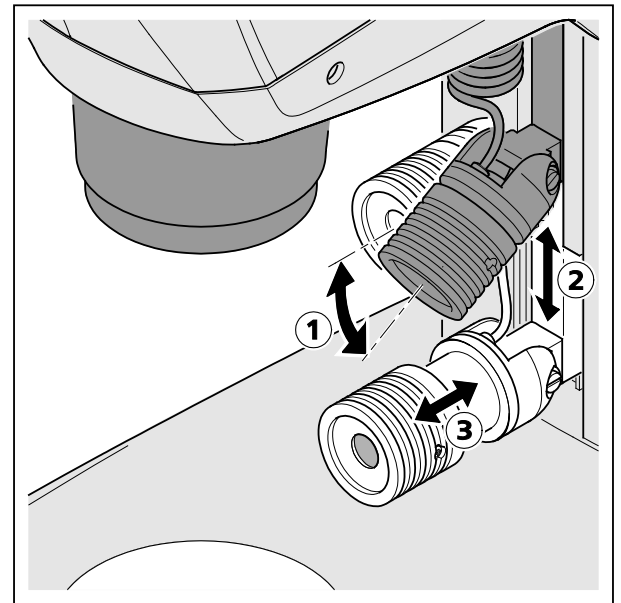

Fig. 21 Setting the spot illuminator
- Push spot illuminator in the guide to the required height (Fig. 21/2).
- Set the angle (Fig. 21/1) via the pivot of the spot illuminator so that the object is optimally illuminated.
- Set size and brightness of the spot by axially shifting the focusing unit (Fig. 21/3) (illumination zoom).